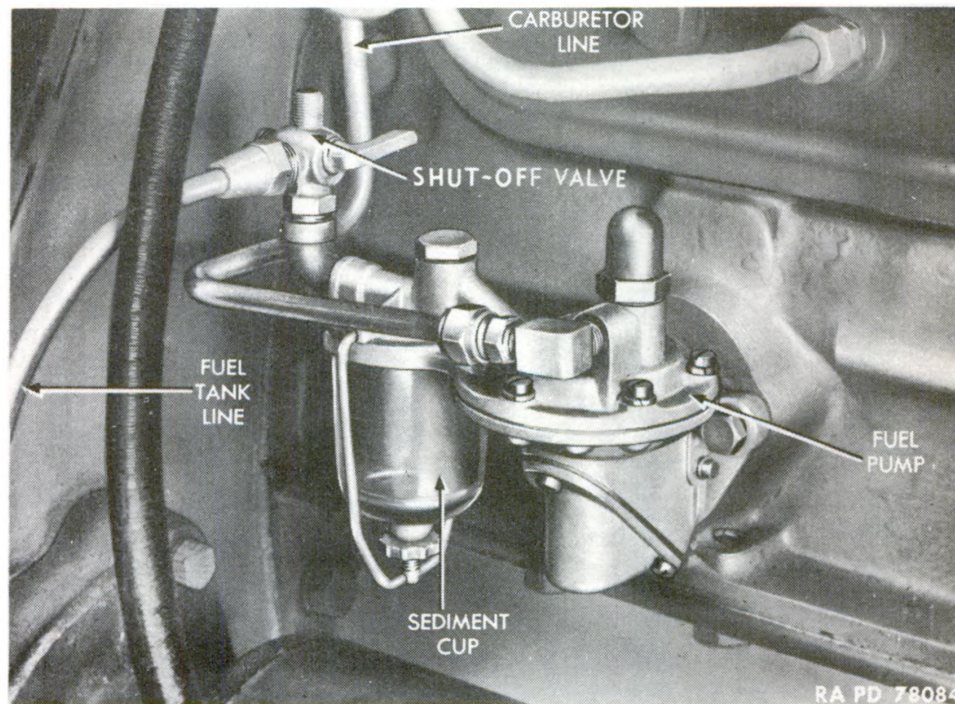

Figure 34 – Fuel Pump – Installed
a. Description. The fuel pump (fig. 34) is a mechanical, diaphragm-type, which is attached to the crankcase and operated by an eccentric on the engine camshaft. The vacuum created by the pump draws the fuel from the tank to the pump. The diaphragm then forces the fuel from the pump to the carburetor. Before the fuel reaches the pump proper, it flows through a strainer into a removable glass sediment cup where water and impurities fall to the bottom. The fuel flow passes across the top of this cup.
- (1) Disconnect fuel tank line and carburetor line at fuel pump (fig. 34).
- (2) Connect fuel tank line and carburetor line to fuel pump (fig. 34).